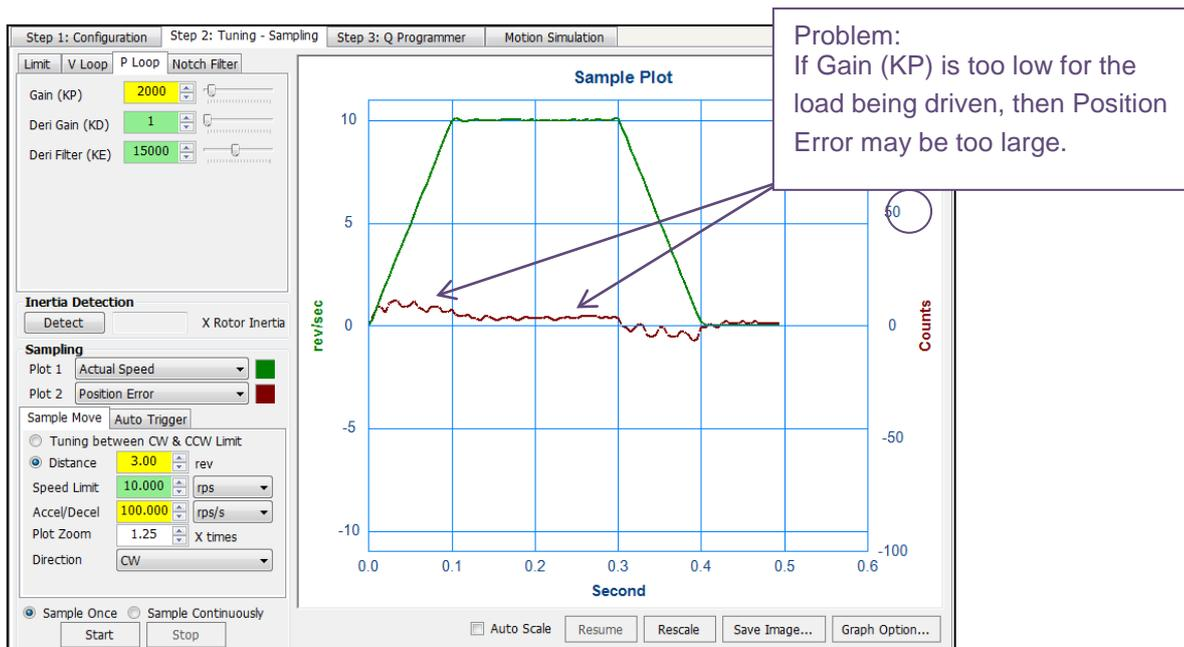
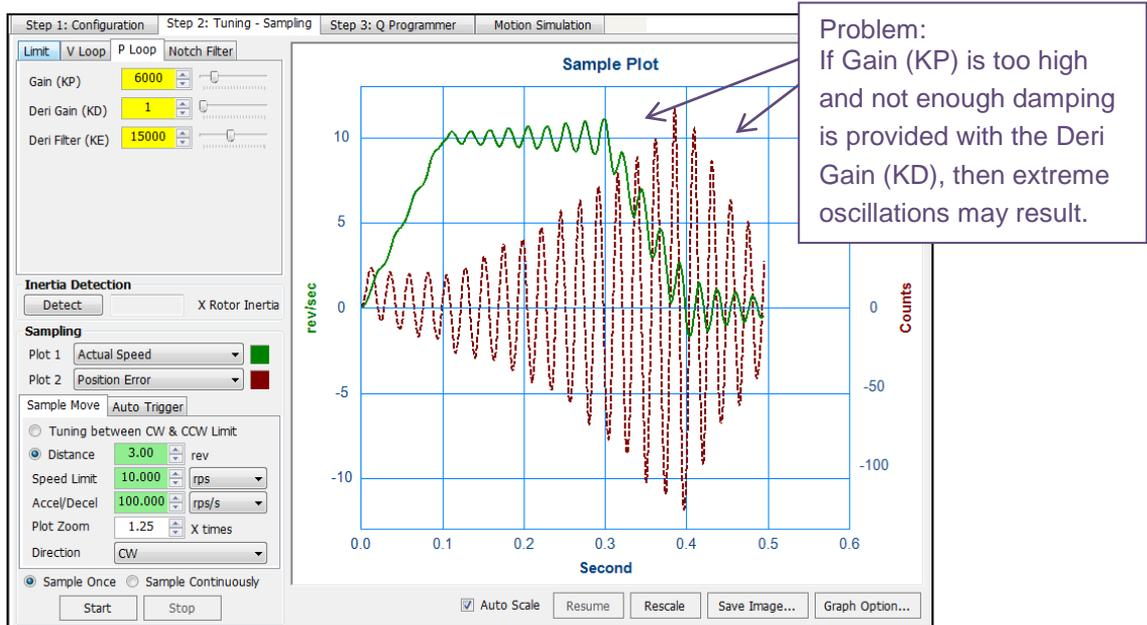

Figure 6.3.4a: Position Loop tuning; plot of Actual Speed and Position Error
Figure 6.3.4b: Instability created by high KP setting while tuning P Loop
- Set Deri Filter (KE) at default of 15000 and reduce Gain (KP) & Deri Gain (KD) to 1
- Increase Gain (KP) while running sample move in an effort to minimize Position Error (see **Fig. 6.3.4a**). Increasing KP too much will lead to instability (see **Fig. 6.3.4b**).